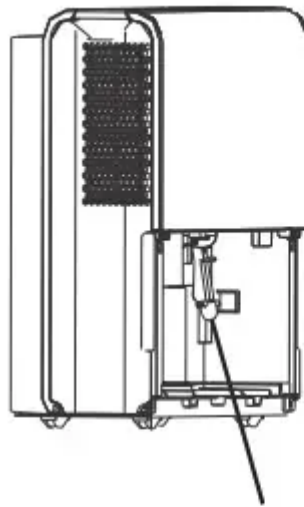

**Fig. 11**
- Remove the continuous drain hose from the unit and install the plastic cover to the continuous drain hose outlet of the unit by clockwise rotation. (See Fig. 11)
- Insert the pump drain hose into the pump drain hose outlet for at least 15mm (See Fig. 11), then lead the water hose to the floor drain or a suitable drainage facility.